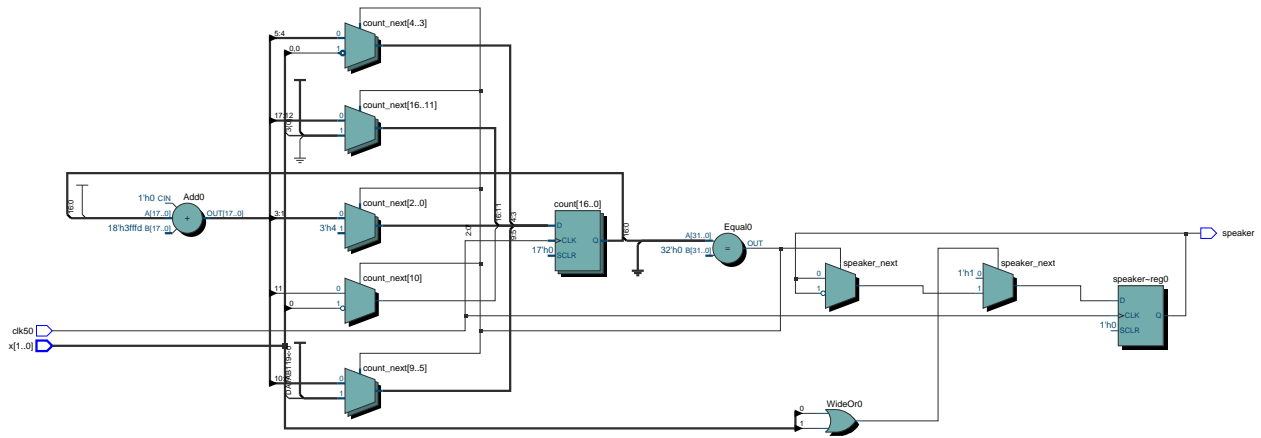

Figure 1: Example RTL Schematic for Lab 3.
2. The PDF file containing the schematic created by Tools > Netlist Viewers > RTL Viewer and then File > Export... . The file might look like Figure 1.